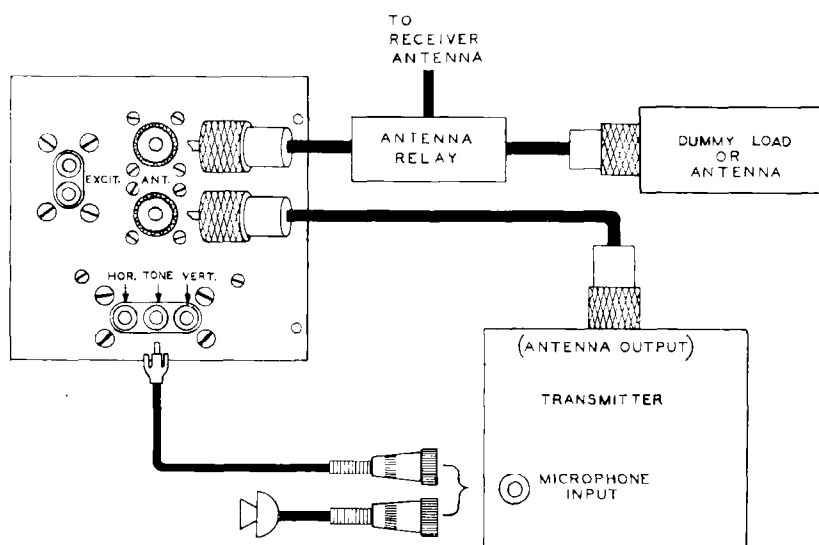

Figure 2
## TRANSMIT ENVELOPE PATTERNS (FIGURE 2)
2. Connect the scope to the transceiver as shown in Figure 2 on Page 43.